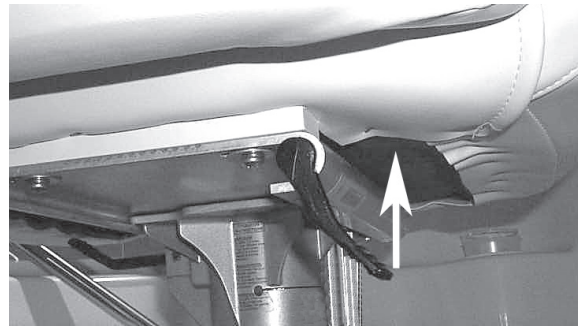

Figure N8: Bucket Seat “Slide” Handle
To manually adjust the position of the bucket seat lift up on the “Slide” handle located under the seat. Slide the seat forward or aft to the desired position. Release the “Slide” handle and it locks the seat into position. The seat will adjust approximately six (6) inches. See Figure N8.
2. Locate the “Slide “ handle (See Figure N8). Slide the seat either forward or rearward to clear the coaming/side pad or seat cushion. When at the desired position, release the handle and the slide will lock into position.